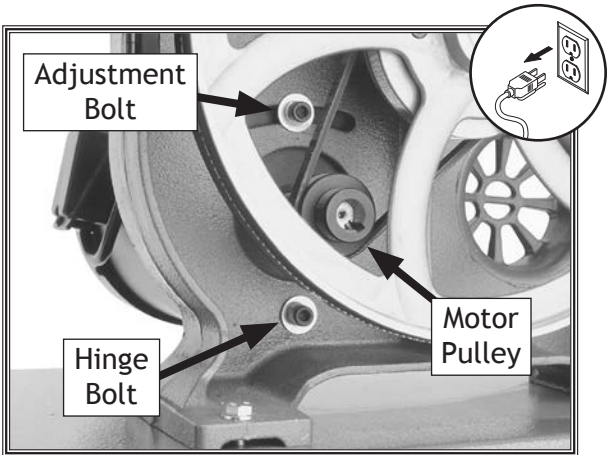

Figure 46. Blade speed controls.
2. Open the lower wheel cover, then loosen the motor mount bolts (adjustment and hinge bolts) shown in **Figure 46**.